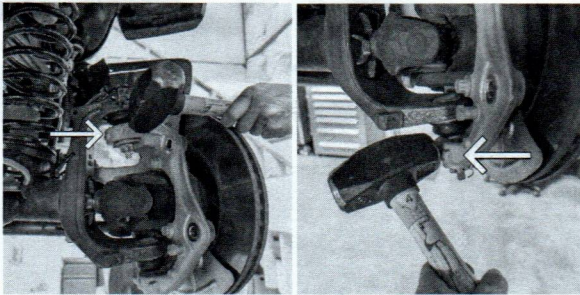

Figure 8. Knuckle Striking Area
11. Remove the cotter pins from the old ball joints. Loosen the nuts on the lower ball joints. Remove the nuts from the upper ball joints. Knock the knuckles loose by either striking the knuckle with a ball peen hammer in the area of the ball joint stud taper or using an air hammer. See Figure 8. Separate the lower ball joint taper first, then the upper. Remove the nuts and the knuckles. If the tie rod and drag link were not removed, be sure to hang the knuckle so that the tie rod ends and boots are not damaged.